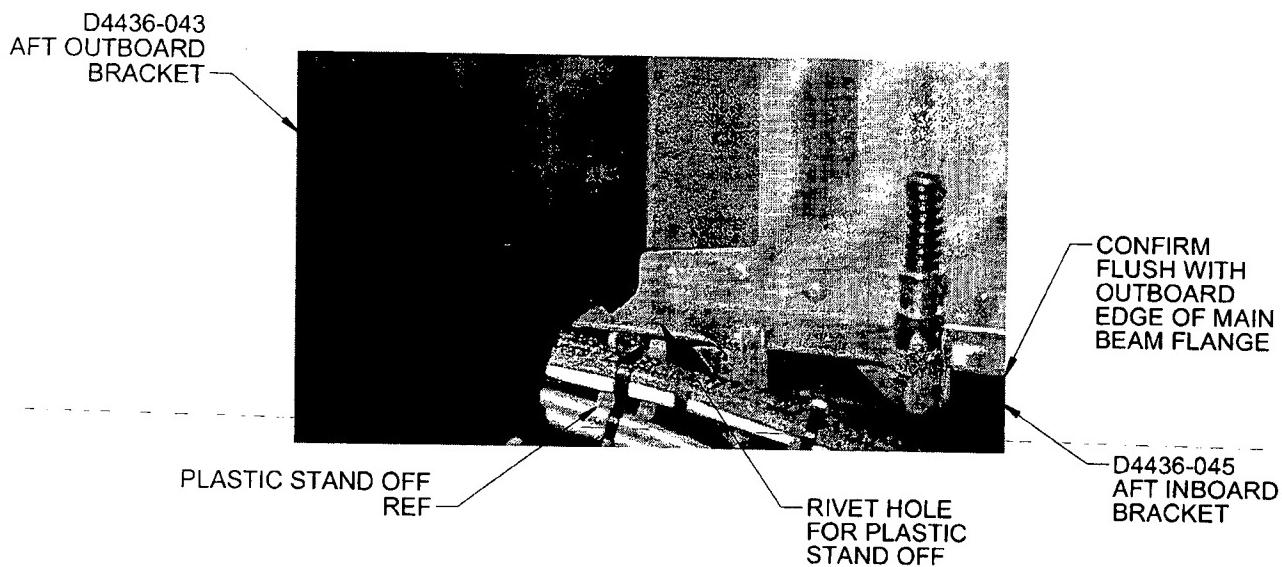
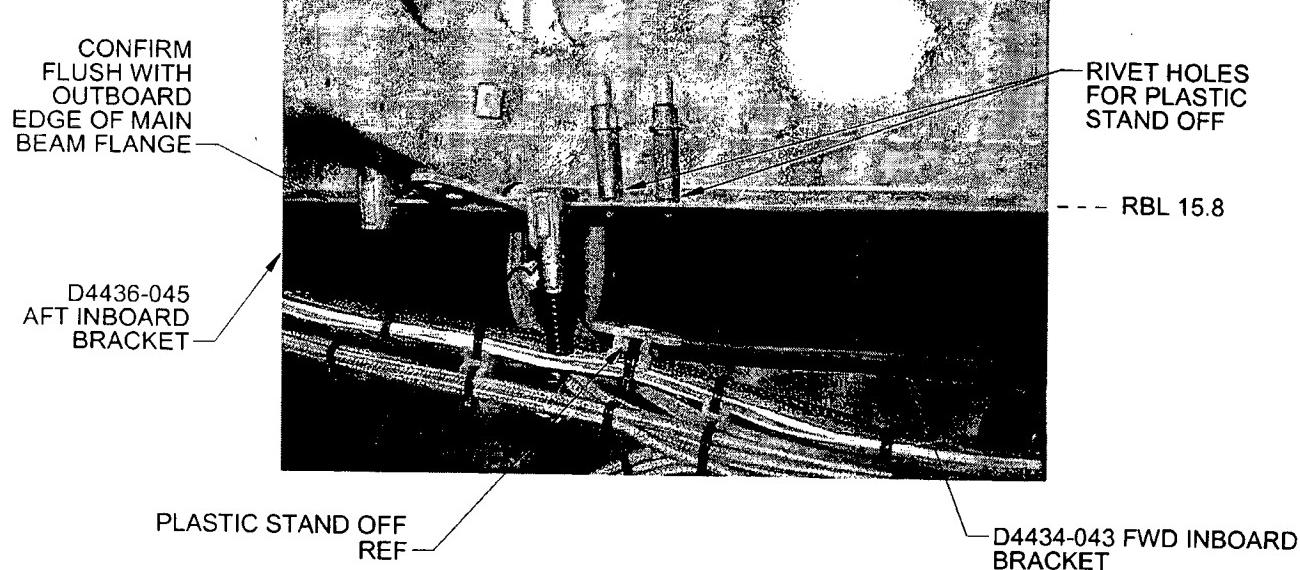
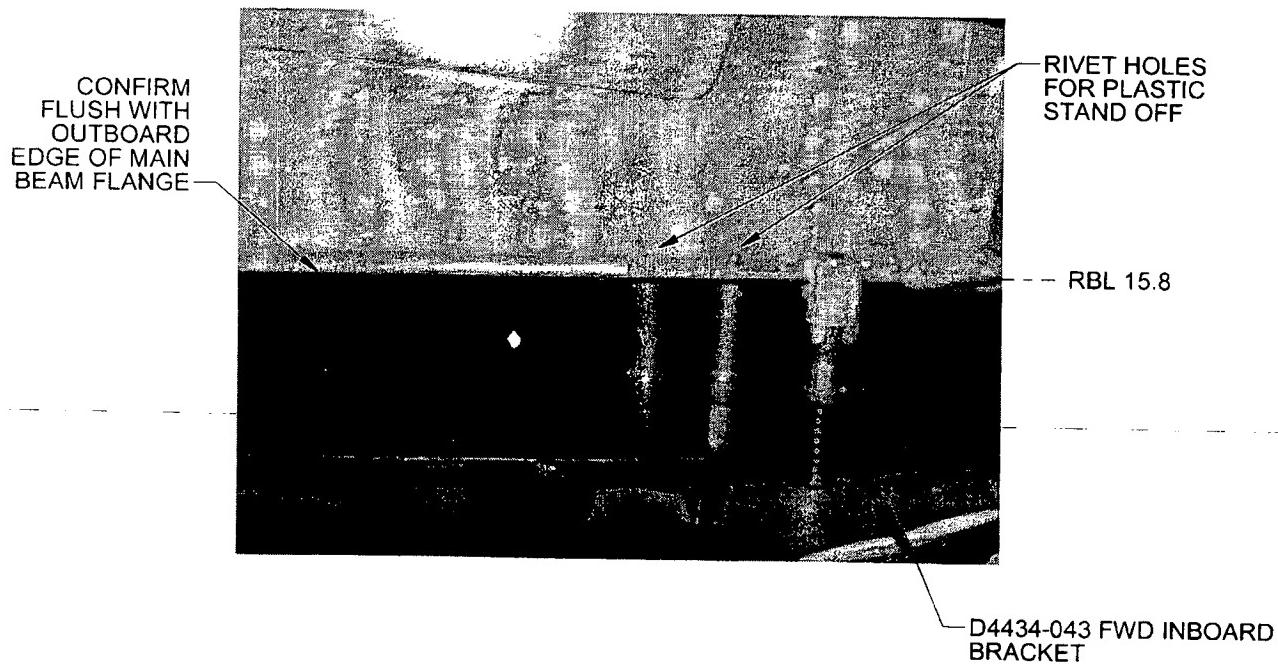

Figure 6. D4436-043 & D4436-045 Brackets Installation
Figure 7. D4434-043 & D4436-045 Brackets Installation
Figure 8. D4434-043 Fwd Inboard Bracket Installation
- 4.4 Drill off rivets holding plastic wire bundle stand offs. Transfer drill \varnothing 0.144 holes to D4436-045 Aft Inboard Bracket per Figure 6. Transfer drill 2 x \varnothing 0.144 holes to D4434-043 Fwd Inboard Bracket per Figure 7. Transfer drill 2 x \varnothing 0.144 holes for D4434-043 Fwd Inboard Bracket per Figure 8. Before drilling confirm the D4434-043 and D4436-045 brackets are flush with outboard edge of main beam flange. Assemble D4436-045 Aft Inboard Bracket and D4434-043 Fwd Inboard Bracket and wire bundle stand offs to main beam flange using MS35206-229 screw, NAS1149FN616P washer and MS21042L06 nut.